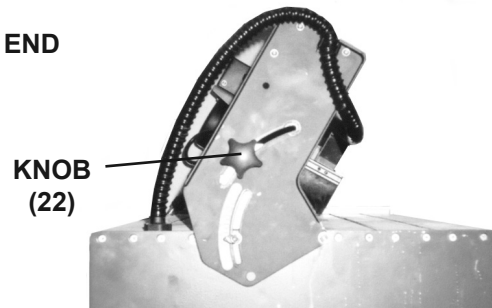

FIGURE 14
1. Loosen the Knob (22) on each end of the Tile Saw. Also loosen 2 Bolts, (located on lower end of each Rail Stand (24 & 41). Tilt the Slide Rail (26) to the desired angle as indicated on the Angle Scale (43). Then, retighten the two Knobs, and two bolts. (See Figure 14.)